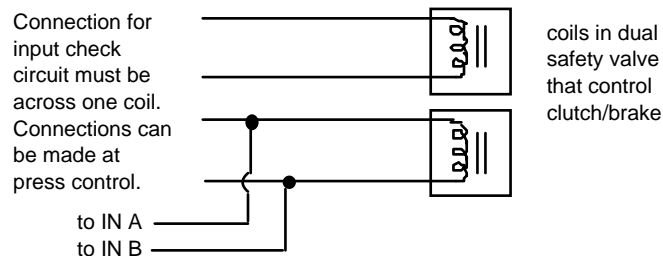

Figure 2-8A. Schematic of input check circuit for 10-130 Vac or Vdc
4. Determine how you will connect wires to the input check circuit (terminals marked "IN A" and "IN B.") You need two wires. These inputs must be in parallel with one of the coils of the dual safety valve that controls the clutch/brake. When the clutch is engaged, 12–250 Vac or Vdc (50-60 Hz) must be present across terminals A and B. See Figure 2-8A. The connection can be made inside the press control where the circuits to the valve relays are wired in. Refer to your press control manual and electrical prints. It does not matter which wire goes to which terminal on the connector.
12. Connect wires for the input check circuit to the terminals marked "IN A" and "IN B." It does not matter in which order you connect the wires. See Figure 2-8A.